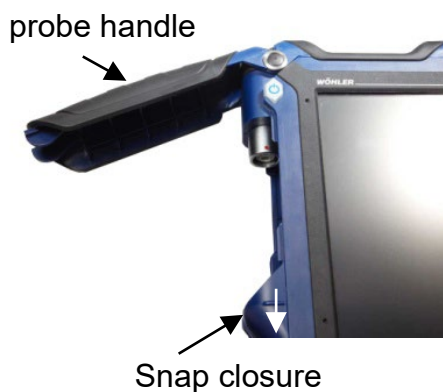

Fig. 19: Wöhler A 550 with open probe compartment
- **Before the first start up** activate the batteries by pushing the transport lock in the probe compartment (see Fig. 19) to the connector, see figure on the left. Use a pointed object to do so.